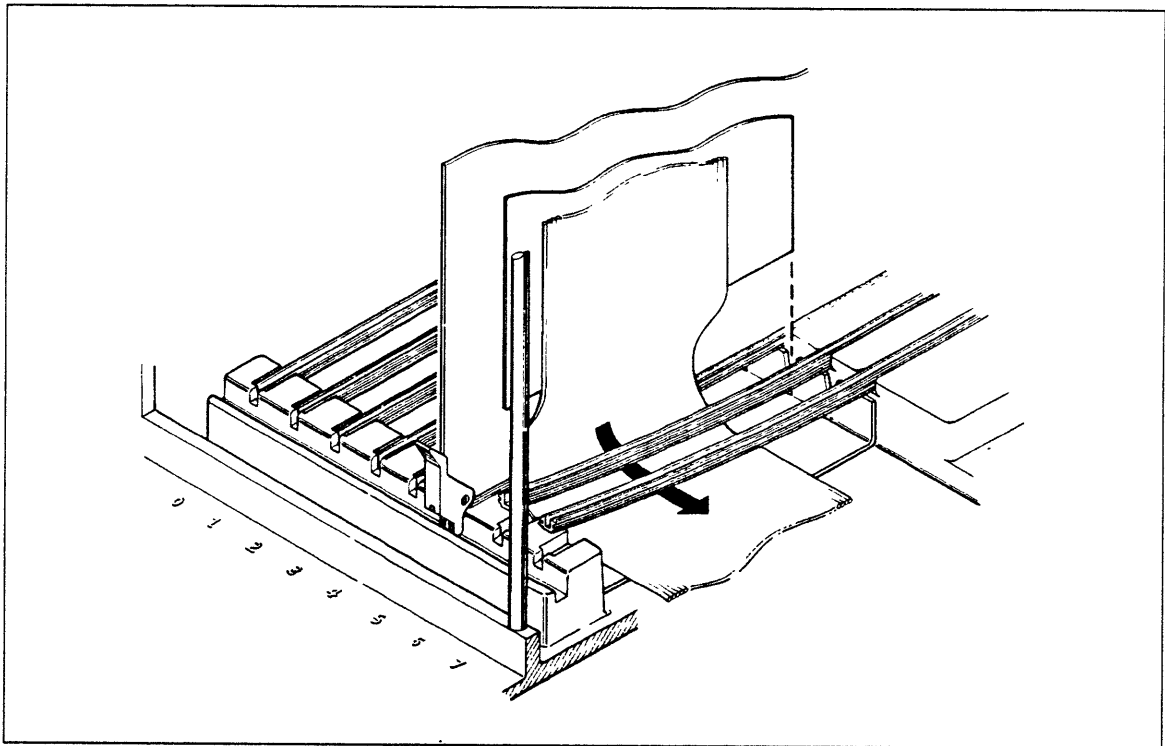

Figure 9-23. Board Tracks
6. Lift front of large board tracks (figure 9-23) to right of CIM board and pull cable out from under tracks.